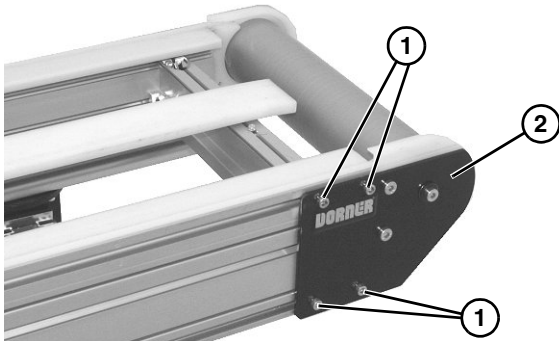

Figure 40
2. On one side of conveyor, loosen the four socket head screws (Figure 40, item 1). Repeat on opposite side.
3. Remove idler tail assembly (Figure 40, item 2).